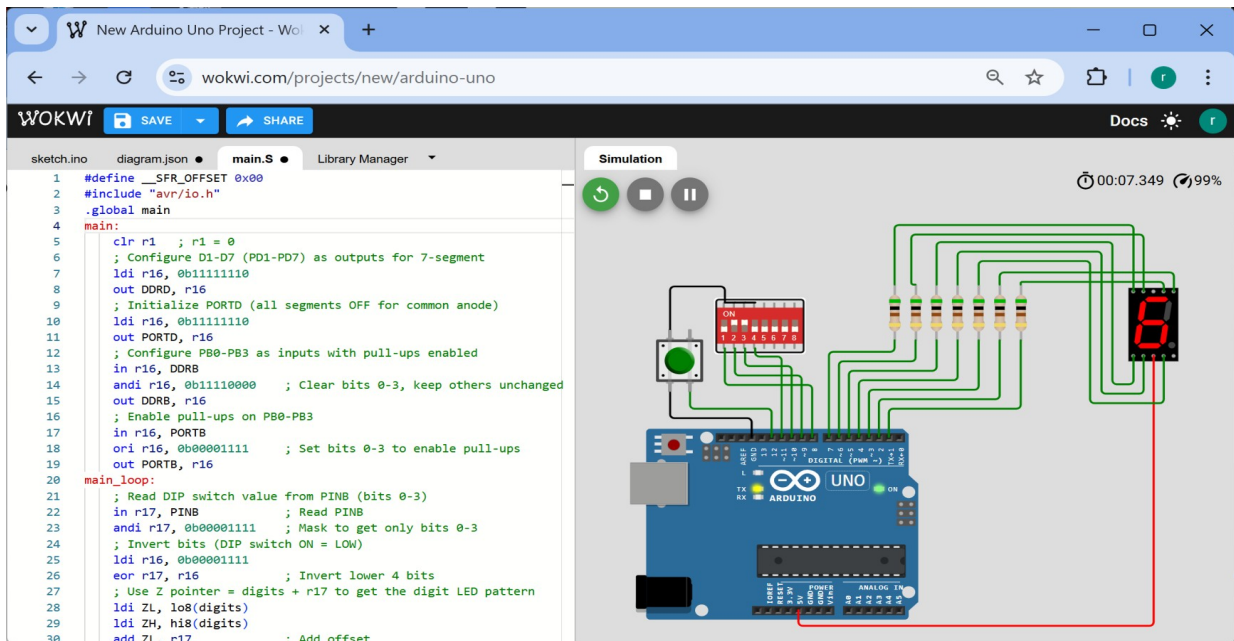

Figure 2: Wokwi Simulator & Circuit Diagram for Lab 2
1. Create a new project in **Wokwi Simulator** (<https://wokwi.com/projects/new/arduino-uno>) as shown in **Figure 2**.